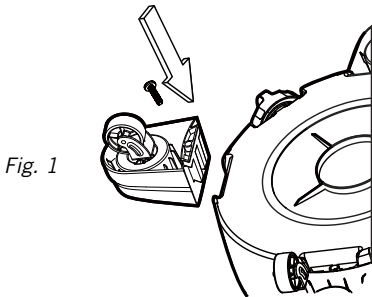

Fig. 1
- Turn the collection tank upside down and insert the four caster feet **6** into the slots on the collection tank and tighten with supplied screws **14**. Verify that the caster feet **6** are mounted correctly. Do not over-tighten screws. **Fig. 1**.